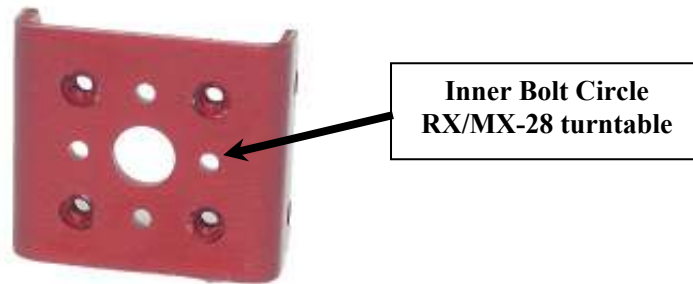

Figure 8
- For MX-28 side bracket installations, use the inner bolt circle and the **M2 10mm screws** as illustrated in figure 8